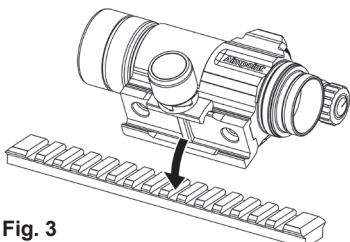

Fig. 3
2 Position the recoil stop (2) in a groove to be used on the rail and install the mount. See Fig. 3.